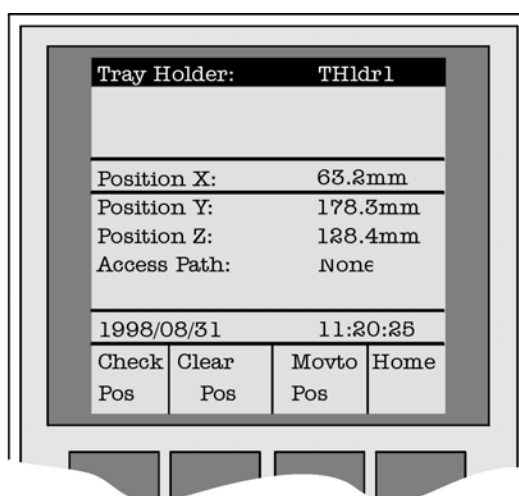

Figure 17. Menu Screen Object Trayholder
- 4 After selecting "Named Tray Holder", the **X Y Z** positions associated with the object will be displayed (see Figure 17).